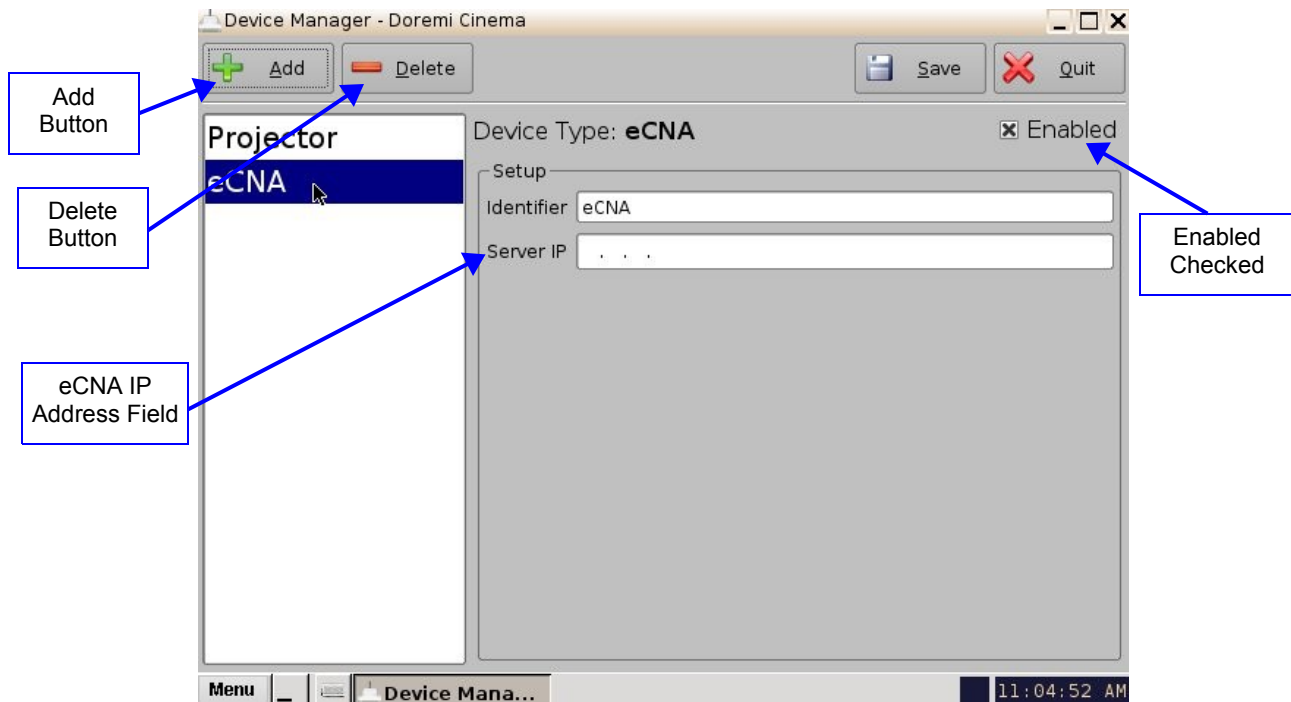

Figure 97: Device Manager GUI – eCNA Device Configuration
- To add the eCNA device, click the Add button in the Device Manager window (Figure 97).
- To remove the eCNA device, select it in the Device Manager GUI and click the Delete button (Figure 97).